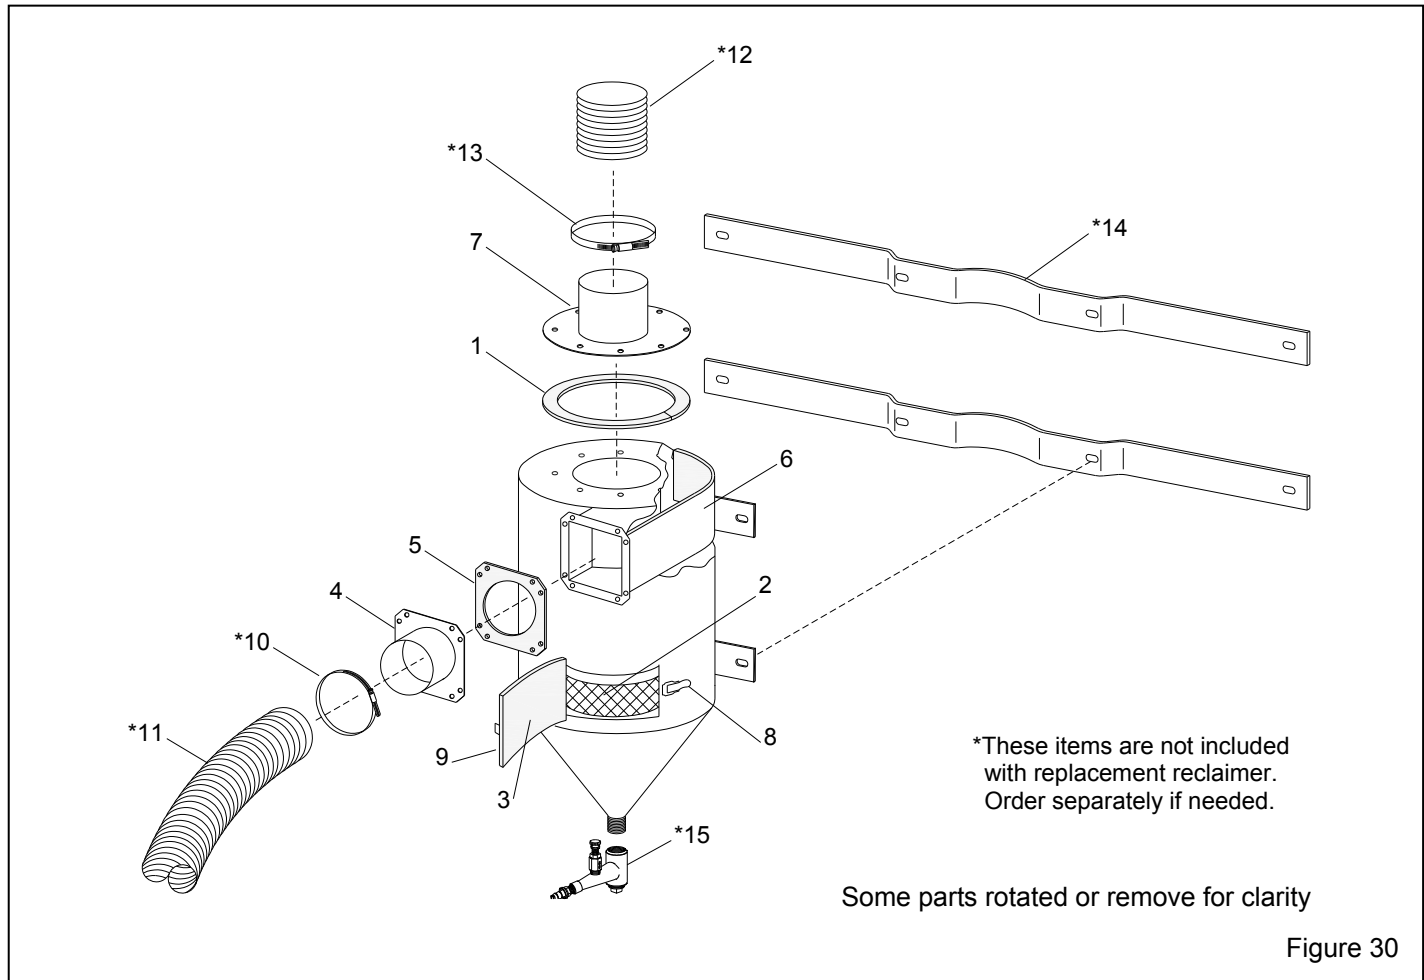

Figure 30
8.9 300 CFM Reclaimer Replacement Parts, Figure 30